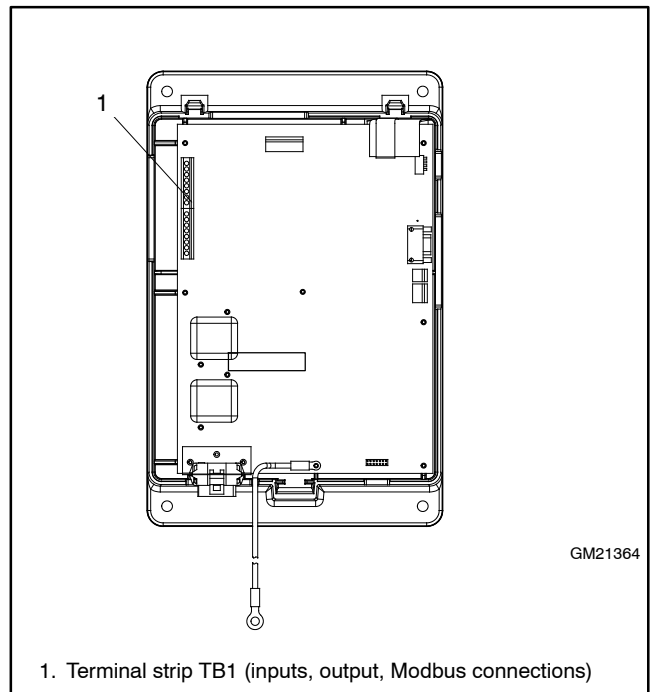

Figure 9-2 ATS Controller, Cover Removed
2. Open the controller housing and locate terminal strip TB1. See Figure 9-2.